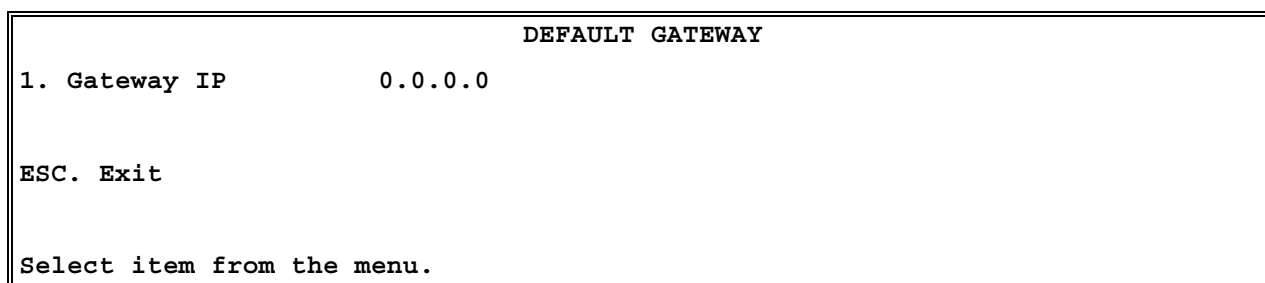

Figure 5-11. Default Gateway Menu
1. From the **General Configuration** menu, press **2 Default Gateway** (see Figure 5-11).